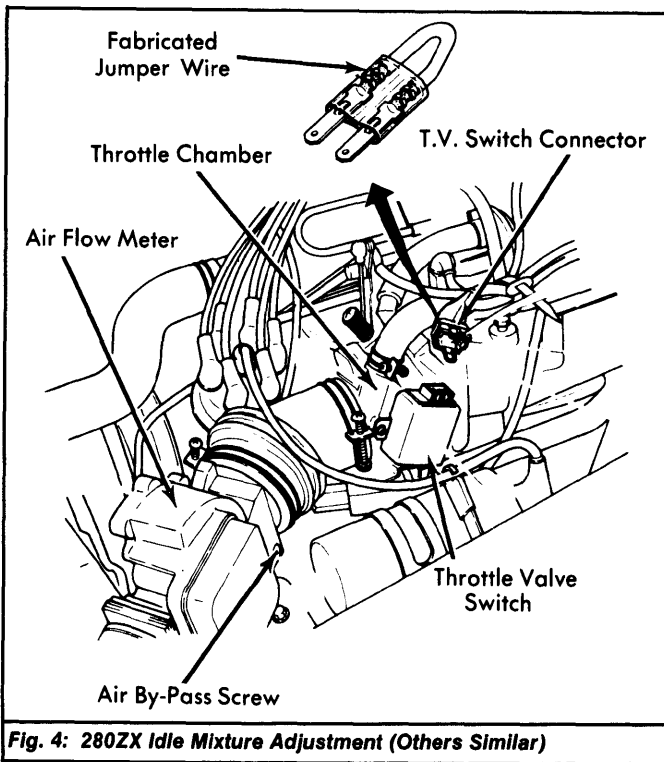

Fig. 4: 280ZX Idle Mixture Adjustment (Others Similar)
3) If CO% level is not as specified in table, turn ignition off. Disconnect Throttle Valve (TV) switch connector. Connect a jumper wire between harness connector terminals No. 3 and 18 (No. 24 and 30 on 1979 models). See Fig. 4.